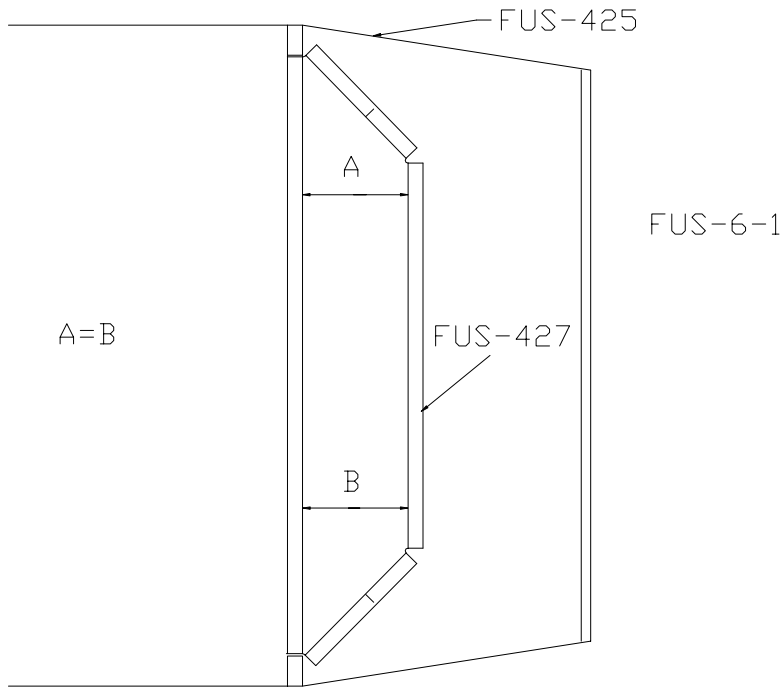

Figure 9.19.7
- 12) Drill the Firewall and the Instrument Panel using the Top Skin FUS-433 as a guide. Drill #40, cleco as you go. **NOTE:** Make sure the Instrument Panel is sitting square in the cabin. Figure 9.19.7.